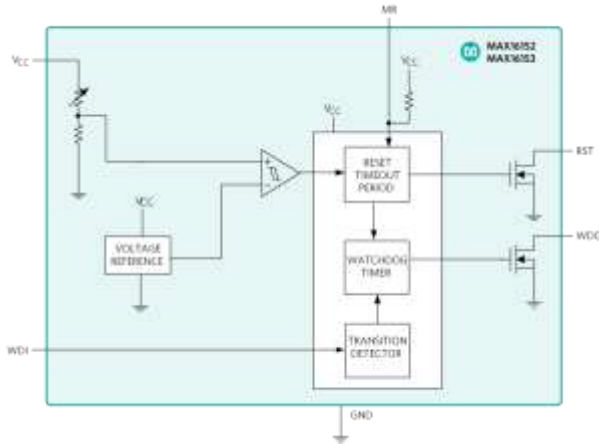

Figure 4. Functional diagram for the MAX16152/MAX16153.
The MAX16152 and MAX16153 (**Figure 4**) address these concerns by providing a manual reset (MR) input to allow an external pushbutton or logic signal to initiate a reset pulse. RST and WDO are provided as open-drain outputs.